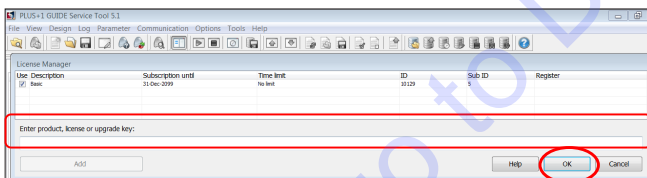

Figure 13. Entering License Key
9. Input the license key obtained from Multiquip (Figure 13) and click "OK".